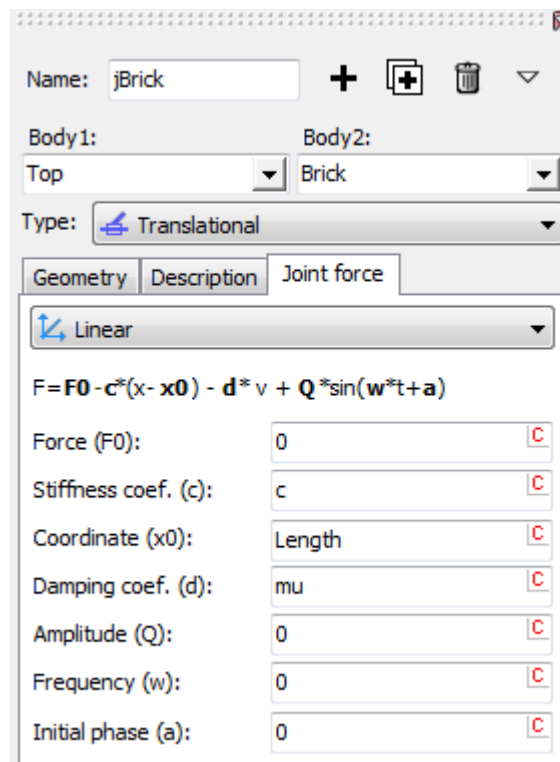

Figure 2.12. Elastic and damping joint forces
4. In the **Stiffness coef. (c)** box input **c**, in the **Coordinate (x0)** box input **Length** and set **Damping coef. (d)** to **mu**, see Figure 2.12. Press **Enter**. Set values of parameters as follows: **c = 250**, **Length = 0.4**, **mu = 5**.